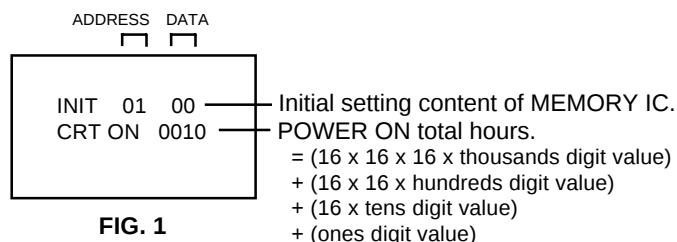

FIG. 1
- Press both VOL. DOWN button on the set and Channel button **(6)** on the remote control for more than 2 seconds. ADDRESS and DATA should appear as FIG 1.